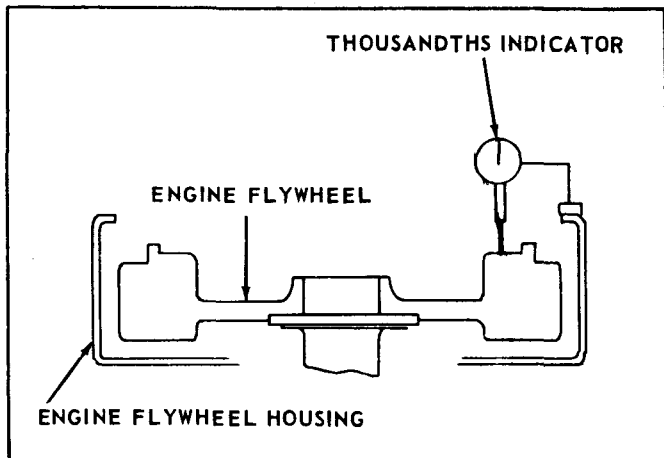

Figure 33. Checking the Driving Ring Surface of the Engine Flywheel.
**D. Checking Driving Ring Surface of Engine Flywheel.** Bolt a thousandths indicator or gauge to the engine flywheel housing so that the indicator is perpendicular to the engine flywheel, and the indicator stem is riding on the inner face of the flywheel (fig. 33). The variation of face runout of the surface to which the driving ring is bolted should not exceed 0.0005-inch maximum total indicator reading per inch of diameter.